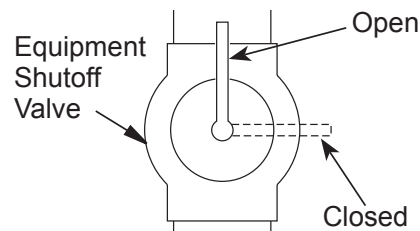

Figure 14 - Equipment Shutoff Valve
1. Close equipment shutoff valve (see *Figure 14*).
1. Open equipment shutoff valve (see **Figure 14, Page 15**).